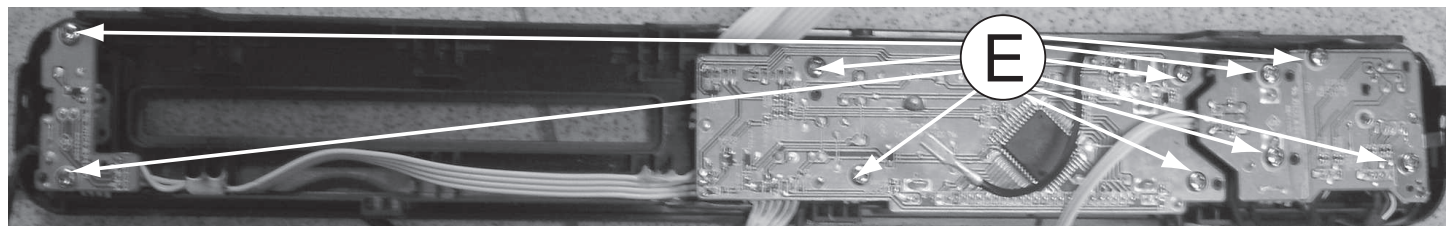

Figure 8
1) Loosen 10 screws "E" on the top of DISP+LED+VOL & MP3 IN Board as shown in figure 8.